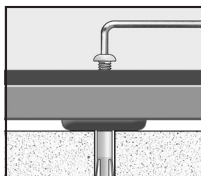

Figure 7
7. Secure the Button Head Bolt tightly using the supplied Allen Wrench (Figure 7).